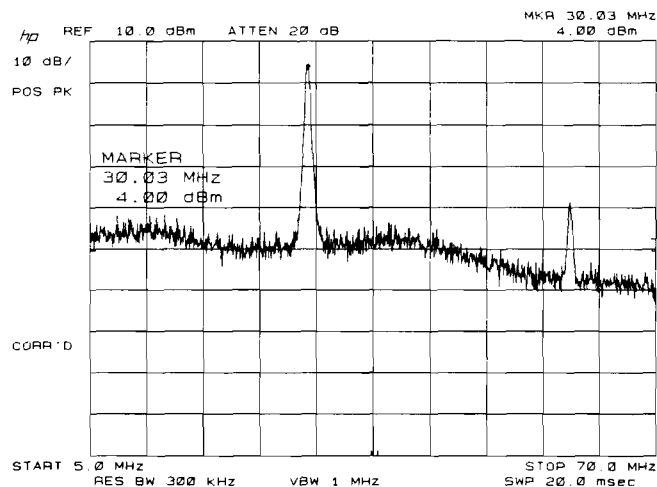

Figure 3-75.
46. The IF OUT fundamental and second harmonics should be visible at approximately 30 MHz and 60 MHz on the display of the second spectrum analyzer, as shown in Figure 3-75. Key in **MARKER** **[NORMAL]** 30 MHz to position a marker at 30.03 MHz on the display of the second spectrum analyzer.